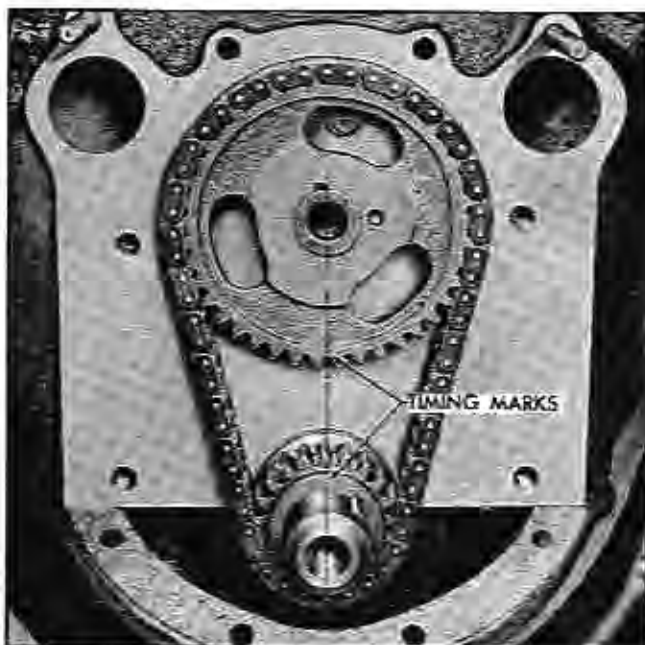
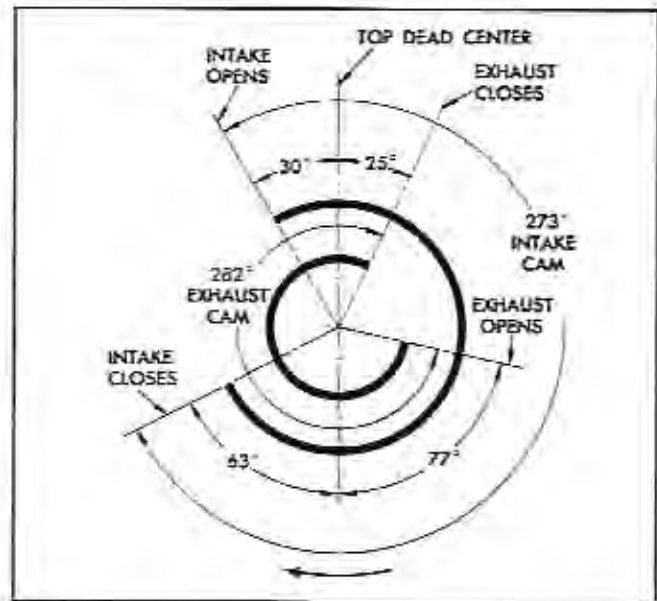
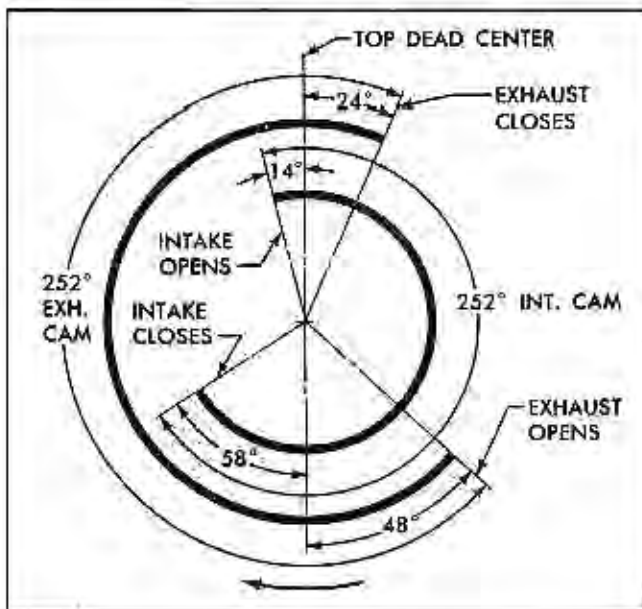

Fig. 6-44 Aligning Timing Marks
Fig. 6-45 Valve Timing Diagram for 315 Hydra-Matic
Fig. 6-48 Valve Timing Diagram for 3-Speed Synchro-Mesh
3. Align timing marks to simplify proper positioning of sprockets during reassembly (Fig. 6-44).
5. Install new timing chain and/or sprockets making sure marks on timing sprockets are aligned exactly on a straight line passing through the shaft centers (Fig. 6-44). Camshaft should extend through sprocket so that hole in fuel pump eccentric will locate on shaft. Valve timing diagrams for the engine are shown in Fig. 6-45 through Fig. 6-48.